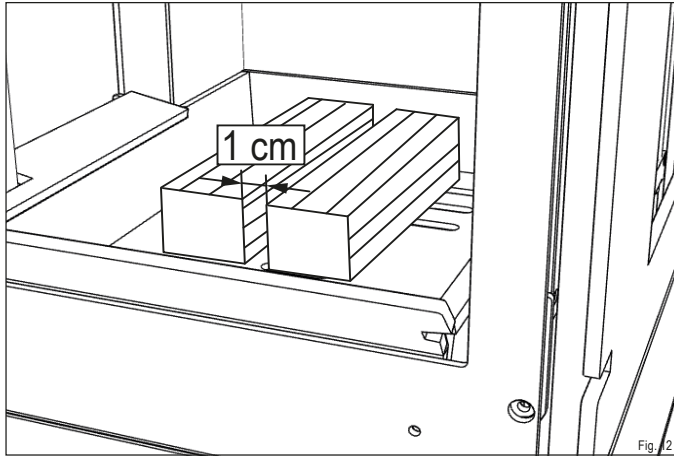

Fig. 12
- ▶ **Place the logs (total weight: 1.5 kg) in the centre (approx. 1 cm apart) in the centre of the firebox grate (fig. 12):**